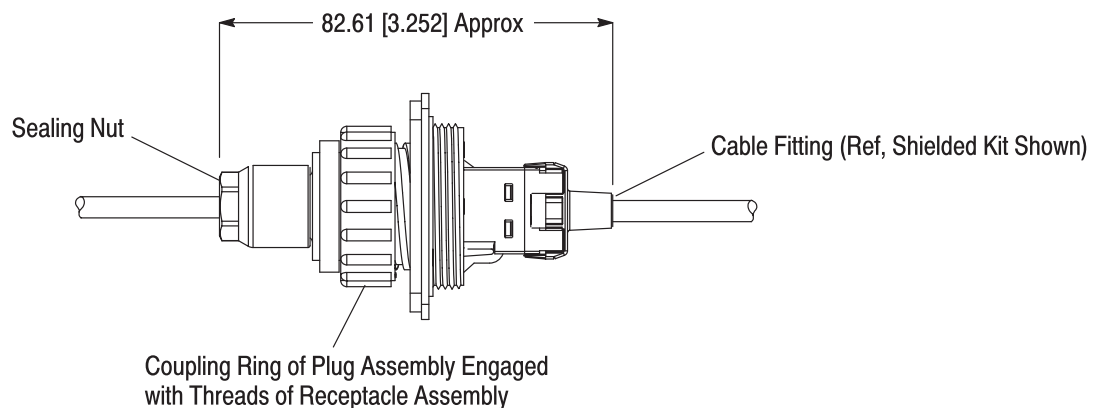

Figure 14
3. The length of the engaged connectors, measured from the sealing nut to the cable fitting (shielded kit or unshielded cable kit) or the cable end of the in-line coupler (unshielded pass-through kit), must be within the dimension given in Figure 14.